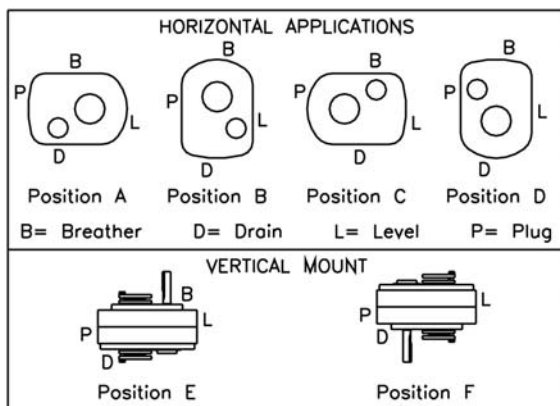

Figure 1 - Mounting Positions
2. Determine the running positions of the reducer. (See Fig. 1)
**Vertical Installations** - Install the filter/ventilation plug in the hole provided in the upper face of the reducer housing. If space is restricted on the upper face, install the vent in the highest hole on the side of the reducer per Figure 1 using the optional vertical vent kit. Install a plug in the hole in the bottom face of the reducer. Do not use this hole for the magnetic drain plug. Install the magnetic drain plug in the lowest hole on the sides of the reducer. Of the remaining holes on the sides of the reducer, use the plug in the upper housing half for the minimum oil level plug,
Below 15 RPM output speed, oil level must be adjusted to reach the highest oil level plug. If reducer position is to vary from those shown in Figure 1, either more or less oil may be required. Consult Dodge.
The running position of the reducer in a horizontal application is not limited to the four positions shown in Fig. 1. However, if running position is over 20° in position "B" & "D" or 5° in position "A" & "C", either way from sketches, the oil level plug cannot be used safely to check the oil level, unless during the checking, the torque arm is disconnected and the reducer is swung to within 20° for position "B" & "D" or 5° for position "A" & "C" of the positions shown in Fig. 1. Because of the many possible positions of the reducer, it may be necessary or desirable to make special adaptations using the lubrication filling holes furnished along with other standard pipe fittings, stand pipes and oil level gauges as required.